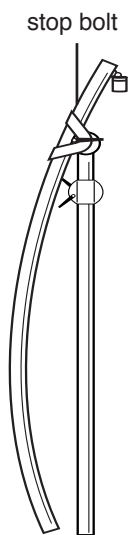
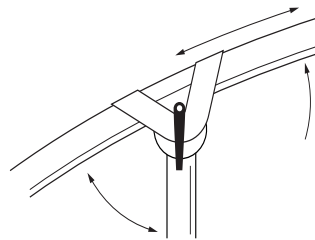
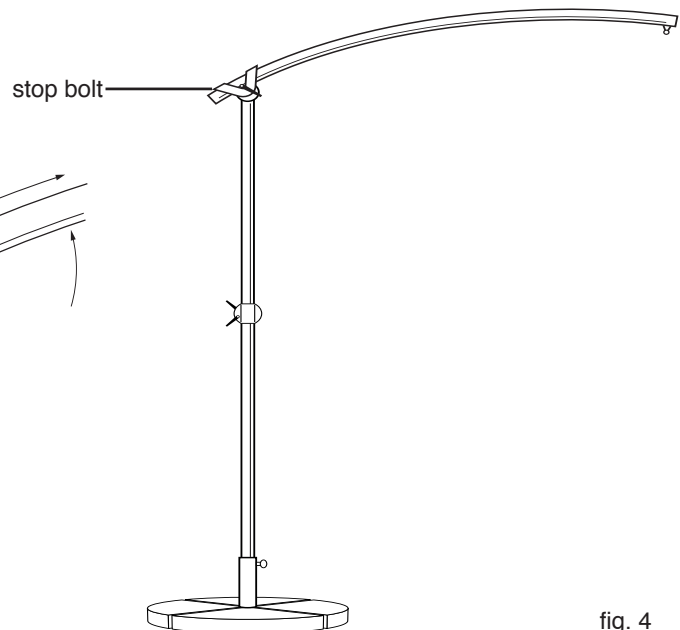

fig. 2
fig. 3
fig. 4
4. To extend or retract the carrier arm (arm support) loosen the clamping lever of the V+ joint (fig. 3) by 1 1/2 turns. Allow the V+ joint to pivot and then extend or retract to either stop bolt at the top of the carrier arm (fig. 2) or bottom (fig. 4).